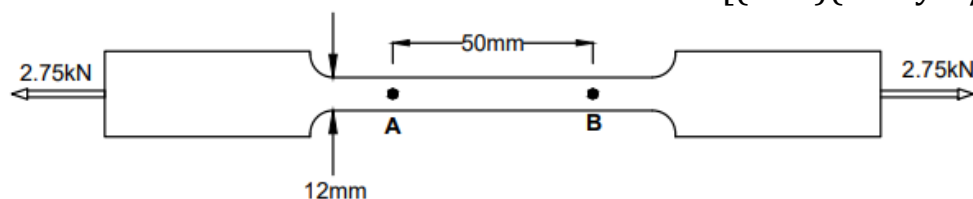

Fig. 2
3. (a) A 2.74 kN tensile load is applied to a test specimen as shown in Fig.2 made of 1.6 mm flat steel plate ($E = 200$ Gpa, $\nu = 0.30$). Determine the resulting change (i) in the 50 mm gauge length, (ii) in the width portion AB of the test specimen, (iii) in the thickness of portion AB, (iv) in the cross-sectional area of portion AB. [[C01](Analyse/IOCQ)]